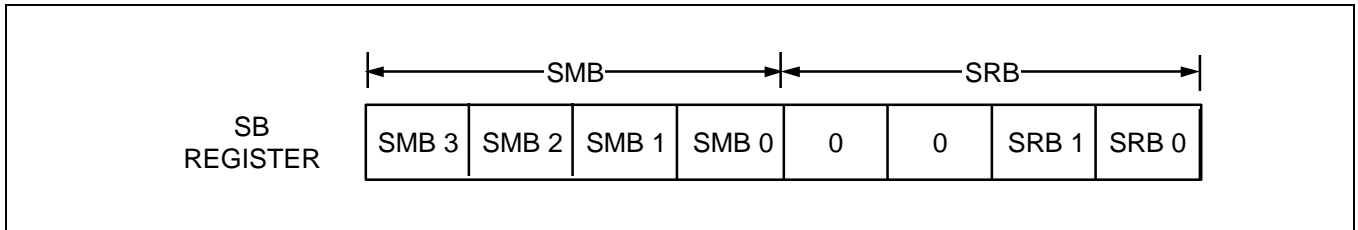

Figure 3–2. 4-Bit SMB and SRB Values in the SB Register
The select bank register (SB) is used to assign the memory bank and register bank. The 8-bit SB register consists of the 4-bit select register bank register (SRB) and the 4-bit select memory bank register (SMB), as shown in Figure 3–2.